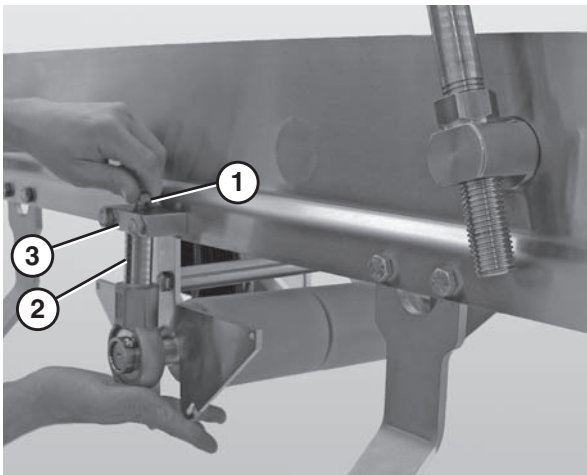

Figure 64
12. Remove the bolt (Figure 64, item 1) that connects the drive shaft assembly (Figure 64, item 2) to the block shaft mount (Figure 64, item 3).